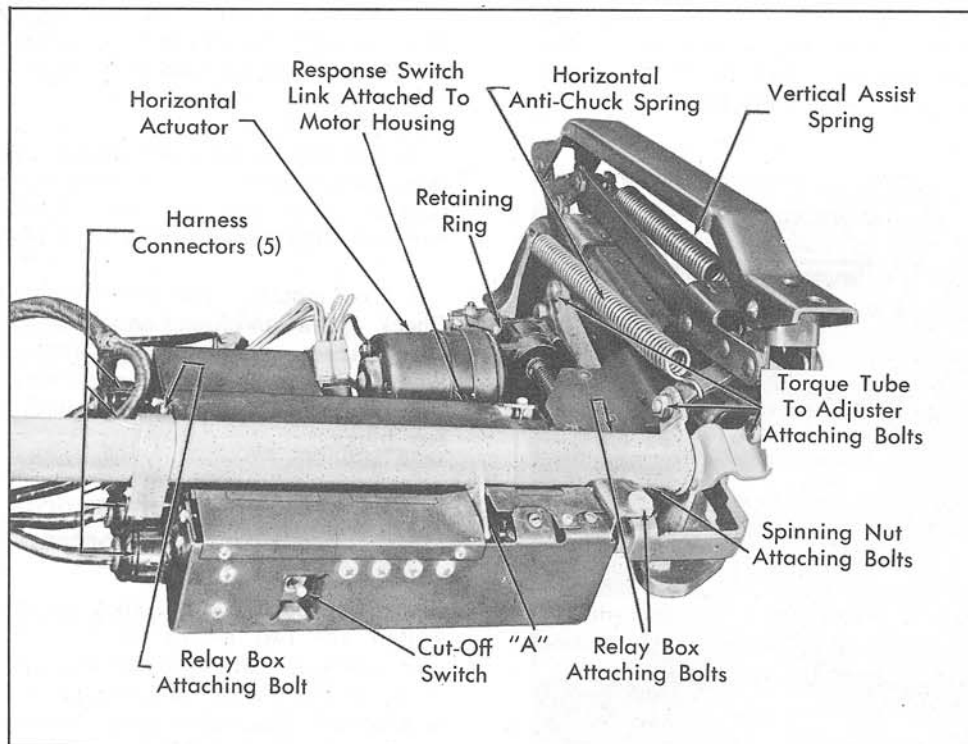
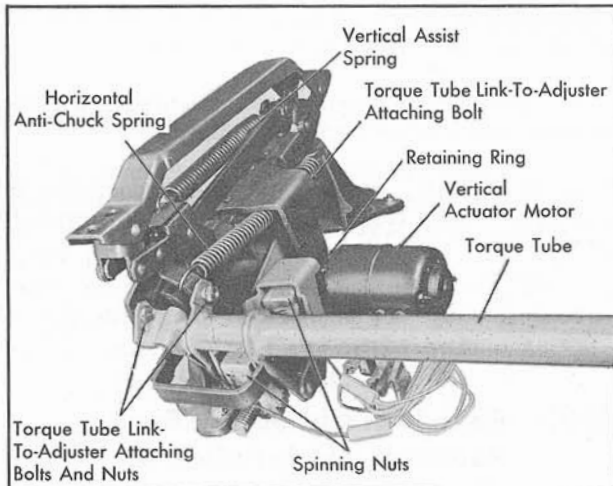

Fig. 17-48 Left Seat Adjuster and Switch Control Box
Fig. 17-49 Right Seat Adjuster
NOTE: The seat adjuster assembly consists of a right and left six-way seat adjuster, a torque tube assembly and two actuator units as shown in Fig. 17-48 and Fig. 17-49.
- a. Remove bolts securing relay box to adjuster, Fig. 17-48.
(76) Vertical Actuator Assembly Removal and Installation
4. Remove screws securing torque tube links to spinning nut assemblies, Fig. 17-49.
(77) Horizontal Actuator Assembly Removal and Installation
disengage connecting links at outboard side of relay box from torque tube, Fig. 17-48.